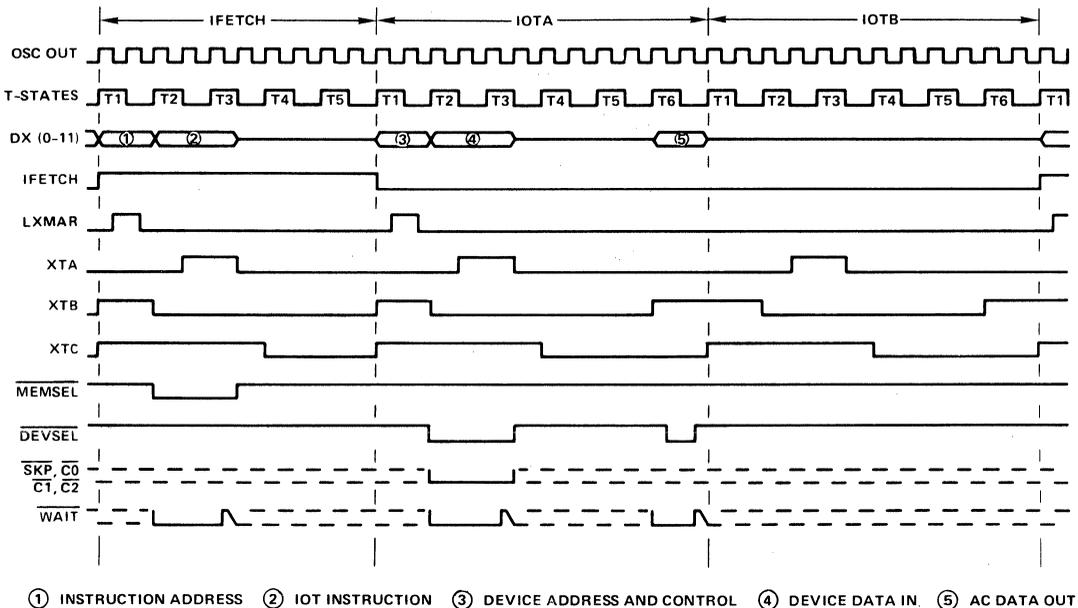

FIGURE 10 - Input-output instruction timing
Programmed Data Transfer is the easiest, simplest, most convenient and most common means of performing data I/O. For microprocessor applications, it may also be the most cost effective approach. The data transfer begins when the HM-6100 fetches an instruction from the memory and recognizes that the current instruction is an IOT (2). This is referred to as an IFETCH and consists of five (5) internal states. The HM-6100 sequences the IOT instruction through a 2-cycle execute phase referred to as IOTA and IOTB. Bits 0 - 11 of the IOT instruction are available on DX0 - 11 at IOTA ^ LXMAR (3). These bits must be latched in an external address register. DEVSEL is active low to enable data transfers between the HM-6100 and the peripheral device (4 & 5). Input-Output Instruction Timing is shown in Figure 10. The selected peripheral device communicates with the HM-6100 through 4 control lines - C0, C1, C2 and SKP. In the HM-6100 the type of data transfer, during an IOT instruction, is specified by the peripheral device(s) by asserting the control lines as shown in Tables 5-1 and 5-2.